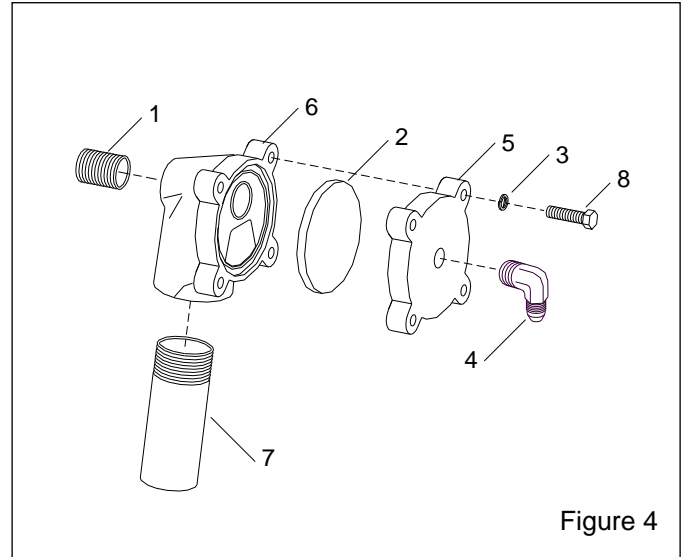

Figure 4
5.2 Diaphragm Outlet Valve, Ref. Figure 4
7.4 1/2" Diaphragm Outlet Valve Figure 4